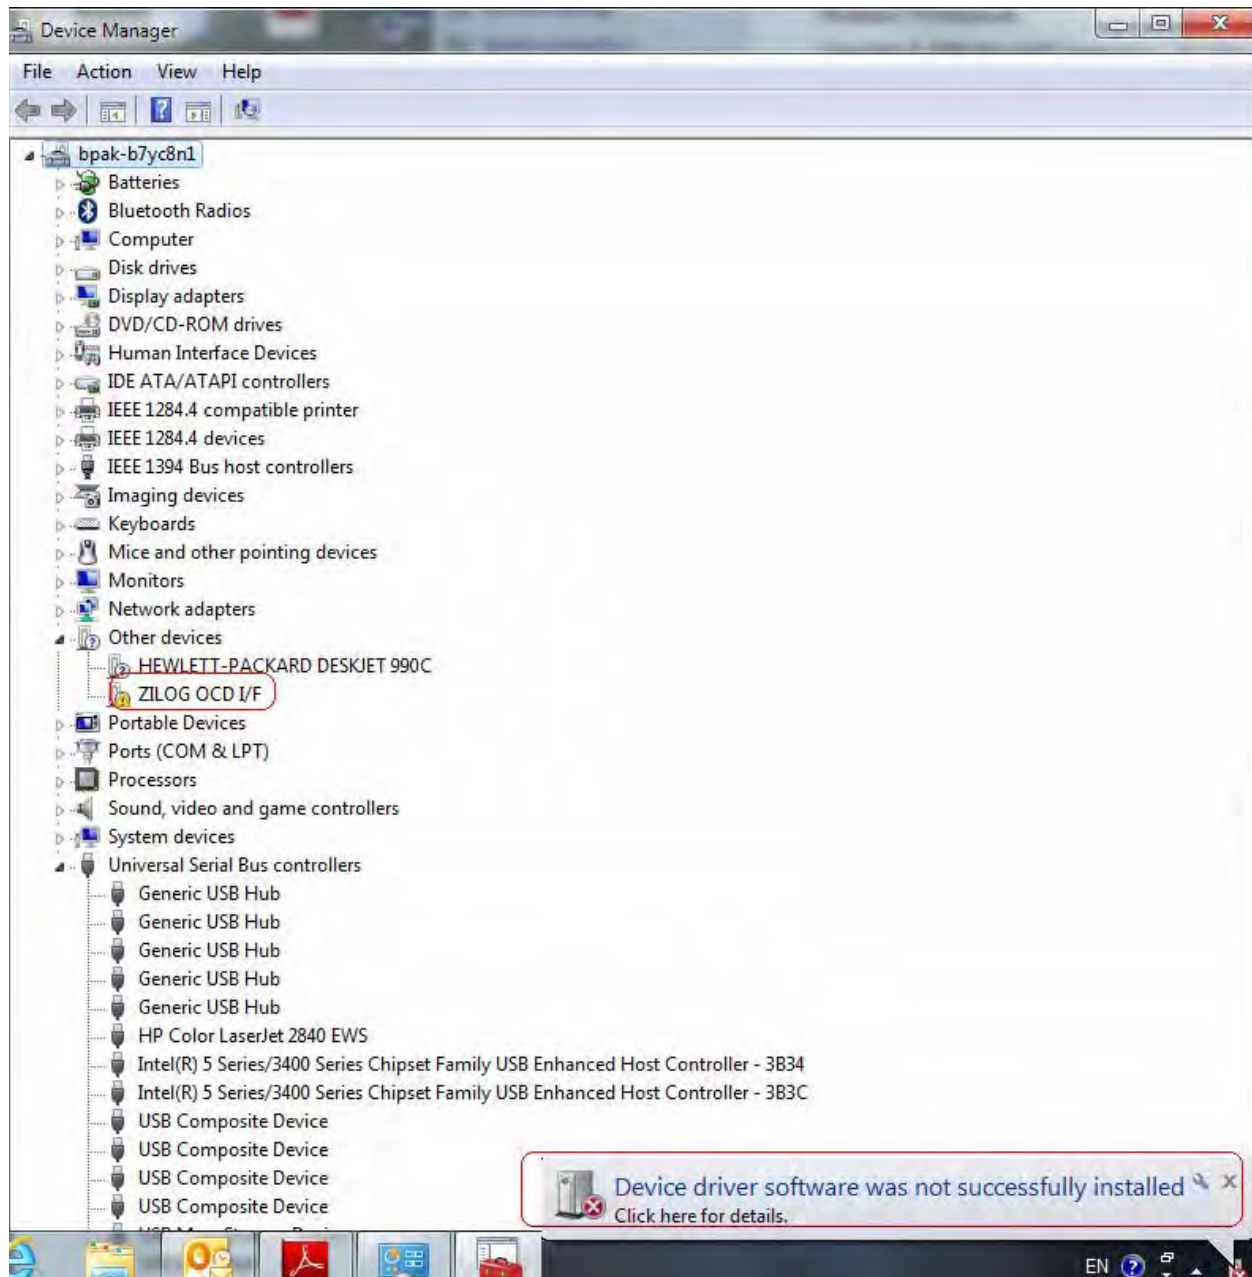
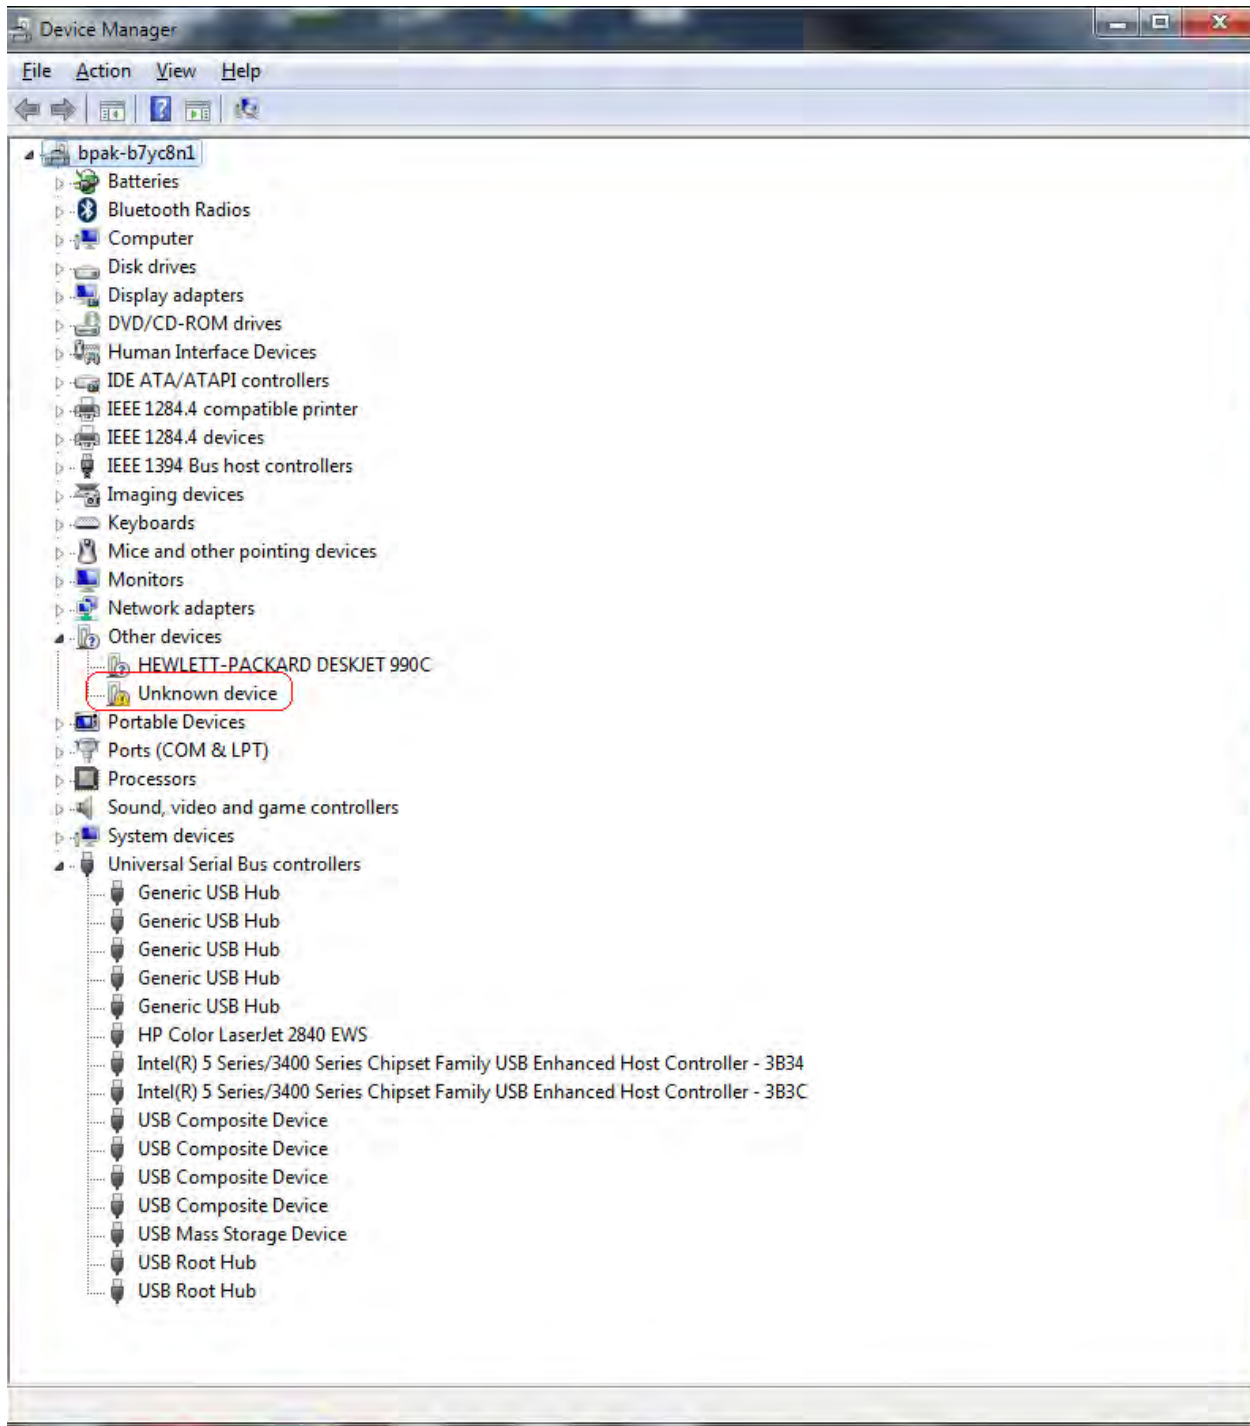

Figure 27. Unsuccessful Installation, Scenario 1
Figure 28. Unsuccessful Installation, Scenario 2
3. If you should encounter the scenarios shown in Figures 27 or 28, right-click your mouse on **ZILOG OCD I/F** (highlighted in Figure 27) or **Unknown device** (highlighted in Figure 28) and select **Update Drive Software...**